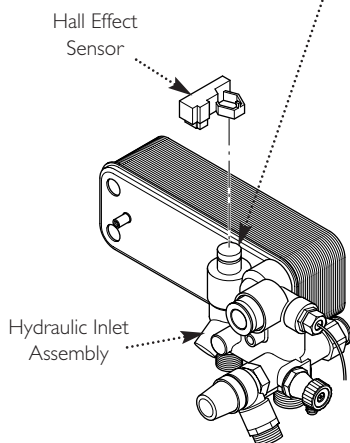

Fig. 79
DHW Filter (Fig. 79)
20. Pull off the Hall Effect sensor. Undo the restrictor from the inlet/return manifold (Fig. 79).